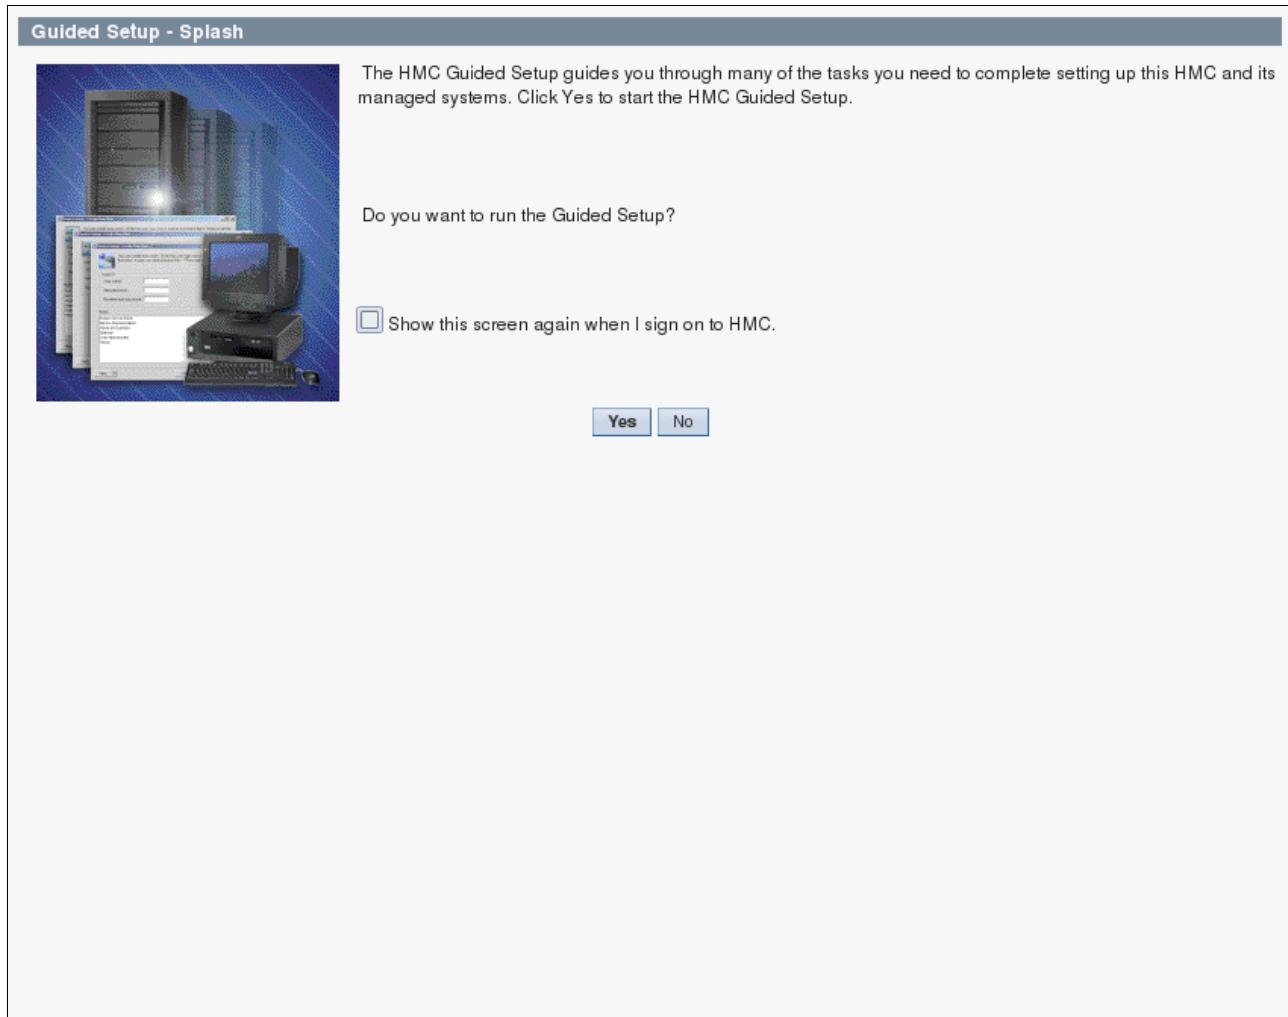

Figure 3-79 Guided Setup - Splash window
8. In the Guided Setup window (Figure 3-79), *deselect Show this screen again* and click **Yes**.